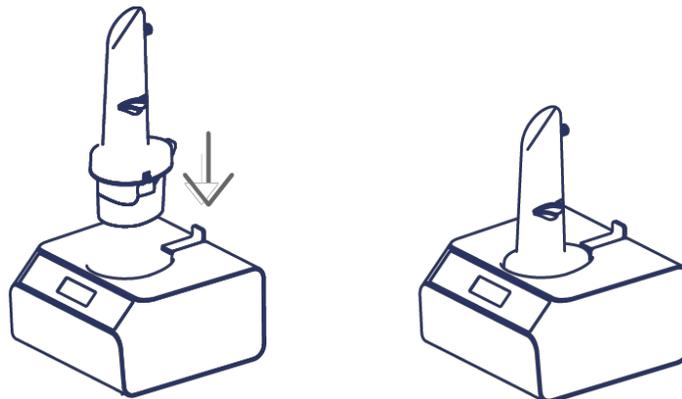

Figure 12 – Installing Mist Assembly into Base
- Being careful not to drop or spill the Mist Assembly, orient it so that it fits into the recess in the Base, slide the Base Latch out, install the Mist Assembly into Base, release the Base Latch, and press down until the Base latch snaps closed. Make sure the Mist Assembly is fully seated and the Base Latch is fully latched (Figure 12).